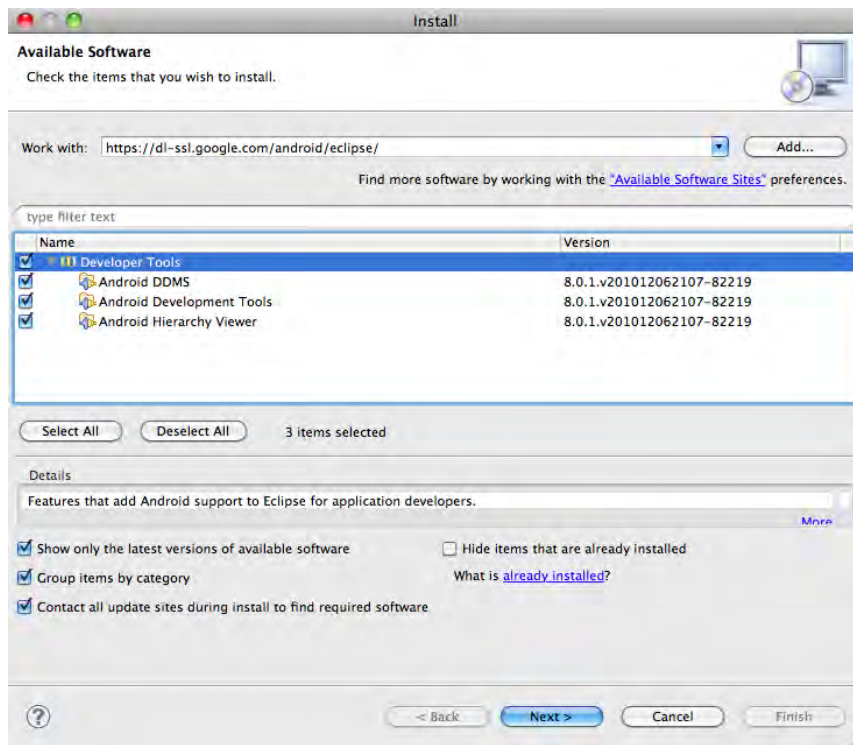

Figure 6-7. Installing Eclipse Developer Tools
3. You will see a Developer Tools option in the list. Check the box next to it and click the triangle next to the checkbox to expand the view. Confirm that Android DDMS, Android Developer Tools, and Android Hierarchy Viewer are selected, as shown in Figure 6-7, and press Next.